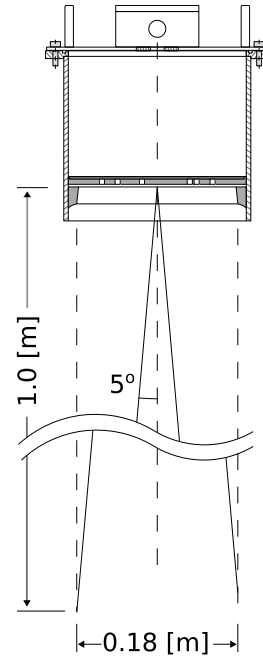

Figure 1.1: The  $5^\circ$  [deg] half top angle of the F08 antenna beam.
- It is advised to choose a mounting position such that the WaveGuide radar beam is free of large reflecting obstacles (the beam of the F08 antenna can be approximated to a conical shape having a  $5^\circ$  [deg] half top angle as shown in Fig. 1.1). The minimum horizontal distance between a radar and any obstacle in the beam's path should be at least 10% of the vertical distance between the radar and the obstacle. This does not only include horizontal objects in the beam's path but also vertical structures.